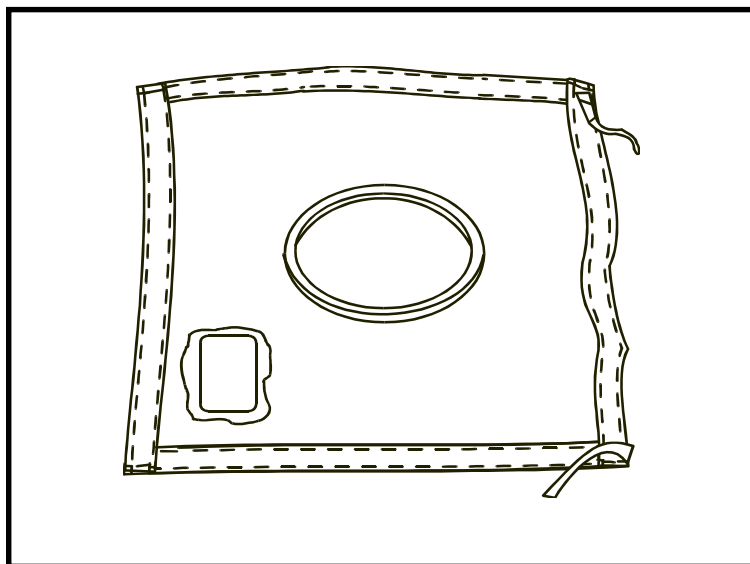

Figure 10-4. Using sealer to repair a large hole
b. Repairs for Large Holes and Tears. A patch attached with silicone sealer is used to repair holes and tears more than 2 inches across in stovepipe shields. To make this repair (Figure 10-4)--
- (1) Obtain a ruler, cleaning materials, a dry rag, a craftsman's knife, a piece of matching patch material, a can of silicone sealer, and a paddle.
- (2) Clean and dry the damaged area thoroughly.
- (3) Measure the damaged area.
- (4) Cut a patch from material salvaged from a shield that could not be repaired. Make the patch large enough to extend 1 inch beyond the damage on all sides.
- (5) Spread a layer of sealer on either the patch or the shield.
- (6) Press the patch in place at once.
- (7) Spread sealer on the edges of the patch to 1 inch beyond the edges of the patch on all sides. Do not move the shield for 4 to 6 hours.